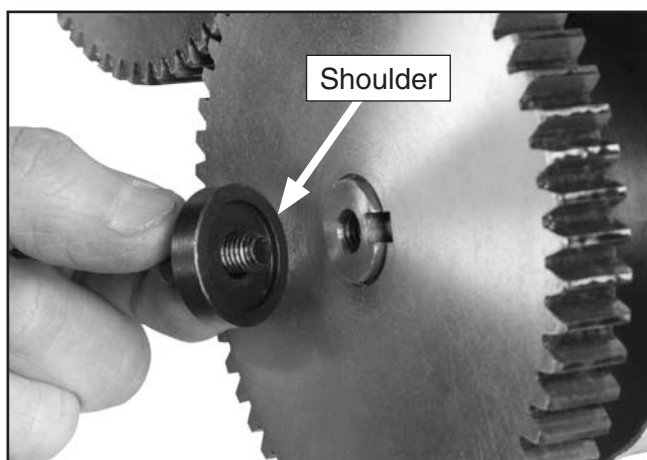

Figure 60. Shoulder washer positioning.
10. Slide the 42-tooth gear onto the lower spindle, install the shoulder washer on the spindle so the shoulder faces the gear (**Figure 60**), and install the cap screw.